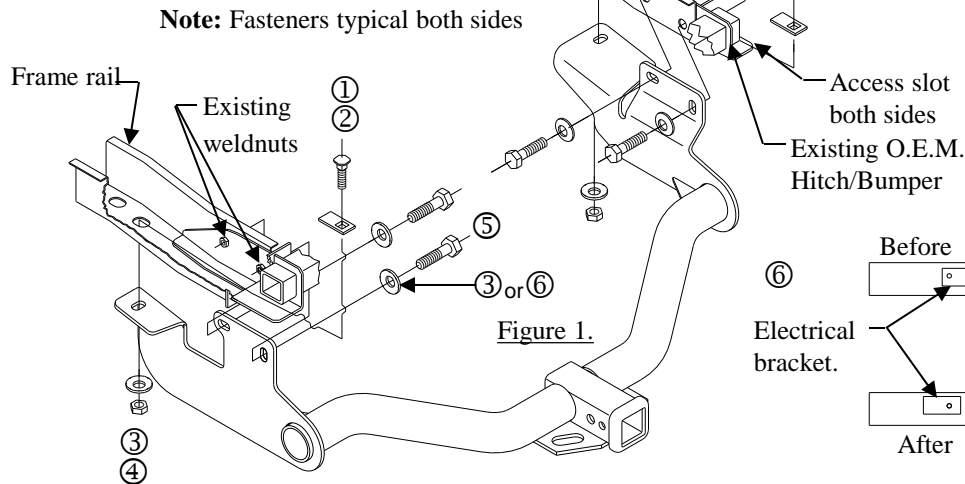
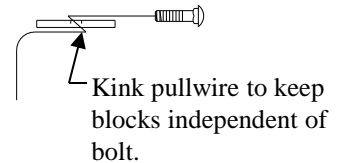

Figure 1.
Figure 2.
Installation for vehicles with O.E.M. Class 2 Integrated Hitch/Bumper. (Figure 1) – Without O.E.M. hitch, see next page (figure 4)
4. Using the pullwire feed carriage bolts and blocks thru access slot in end of the frame as shown in Figure 1. Using the kink pullwire to keep block independent of bolt (See Figure 2). Feed the pullwire thru the existing slot and hitch.
①	Qty. (6)	Carriage Bolt 7/16 – 14 X 1.75 GR5	④	Qty. (6)	Hex Nut 7/16 - 14
②	Qty. (6)	Block	⑤	Qty. (4)	Bolt M12 X 1.75 X 45 CL10.9
③	Qty. (6)	Conical Washer
1. Use pullwire to feed 7/16 - 14 carriage bolt and block using the kink pullwire method (Figure 2) into the forward hole, using the access hole on the passengers frame rail. (See Figure 4)